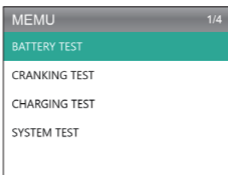

Figure 4.2.2
- To perform a battery test, select Battery Test and press [OK] (See Figure 4.2.2).